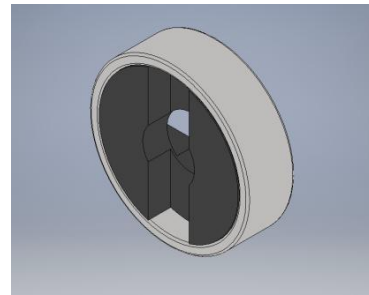

Figure 2
- 5) Remove the last two screws and gently pull the Right Drive Section free of the Extrusion Assemblies. **Set aside away from the work area to minimize the chance of the left and right drive sections getting close to each other.** Ensure that the Screw Coupler Key is accounted for. Both the key and the Drive Coupler (Figure 2) stay with their respective Extrusion Assemblies.